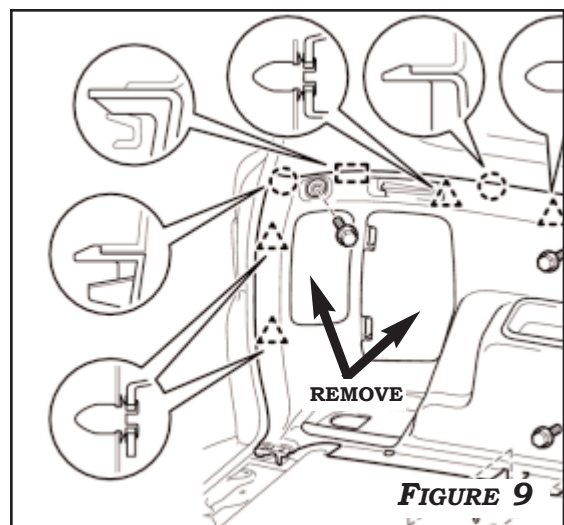

FIGURE 9
8. REMOVE LEFT COMPARTMENT SIDE COVERS. REMOVE 3 BOLTS AND DISENGAGE 7 CLIPS TO RELEASE LEFT SIDE COMPARTMENT PANELS. **FIGURE 9**